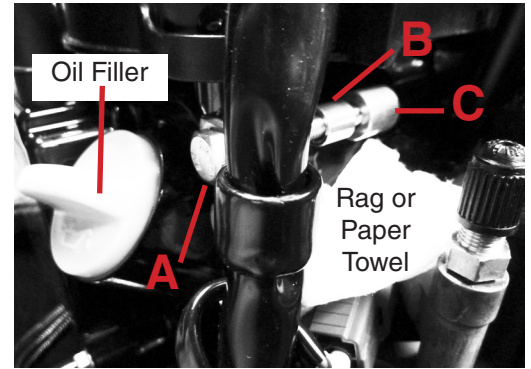
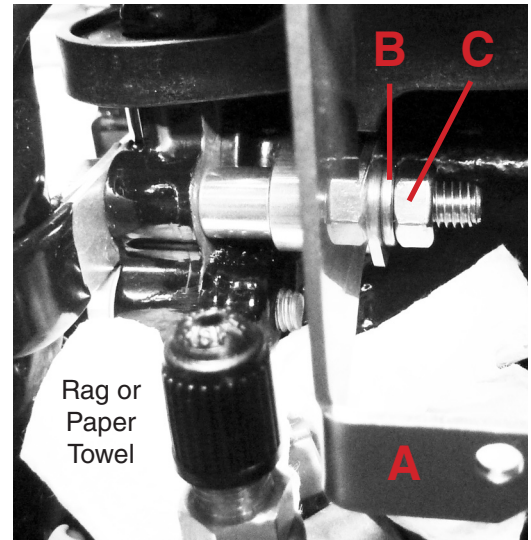

Fig 1
Fig 2
Step 2: See Fig. 1
- REMOVE cable clamp bolt and REPLACE it with long bolt (A) supplied in this kit.
- Place supplied small (B) and large spacers (C) on bolt as shown.
Step 3: See Fig. 2